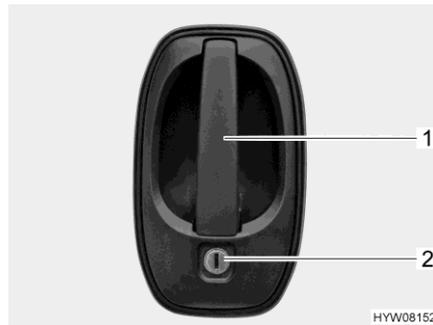

Fig. 30 Door lock (driver's door/conversion door, outside)
- Insert the key into locking cylinder (Fig. 30,2) and turn until the door lock is unlatched.
- Pull on the door handle (Fig. 30,1). The door is open.
- Insert the key into locking cylinder (Fig. 30,2) and turn until the door lock is engaged.